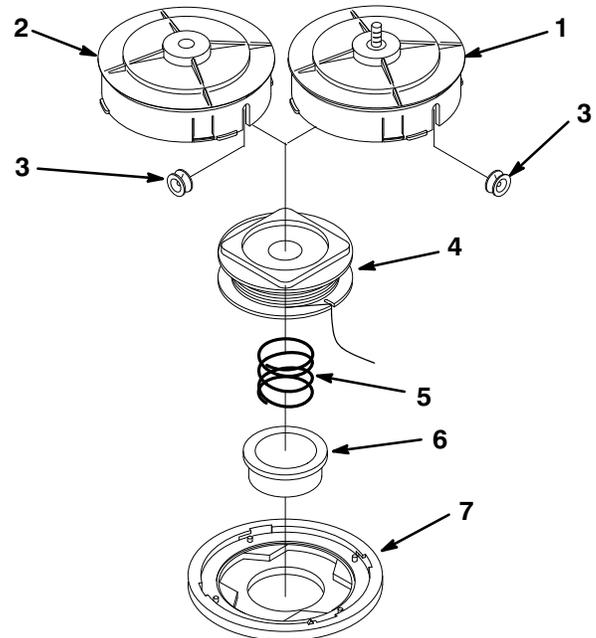

Figure 20
3. Remove the spool. Make sure the metal eyelets and spring do not fall out (Figs. 20).
6. Insert one end of the new line through the hole in the spool shaft (Figs. 20).
8. Thread the two ends of the line through the eyelets (Figs. 20).
9. Replace the bump knob and spool cover. Align the pointed projections and turn the cover counterclockwise (Figs. 20).
1. Unlock the spool cover by depressing the tab and turning the cover clockwise (Figs. 20).
2. Remove the cover and bump knob (Figs. 20).